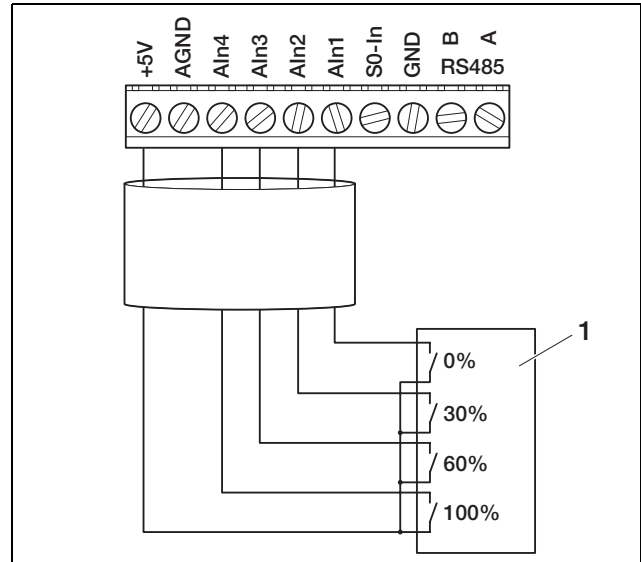

Fig. 57: Connecting the ripple control receiver to the inverter
- Connect the ripple control receiver lines in accordance with the terminal assignment (figure 57 and table 6).